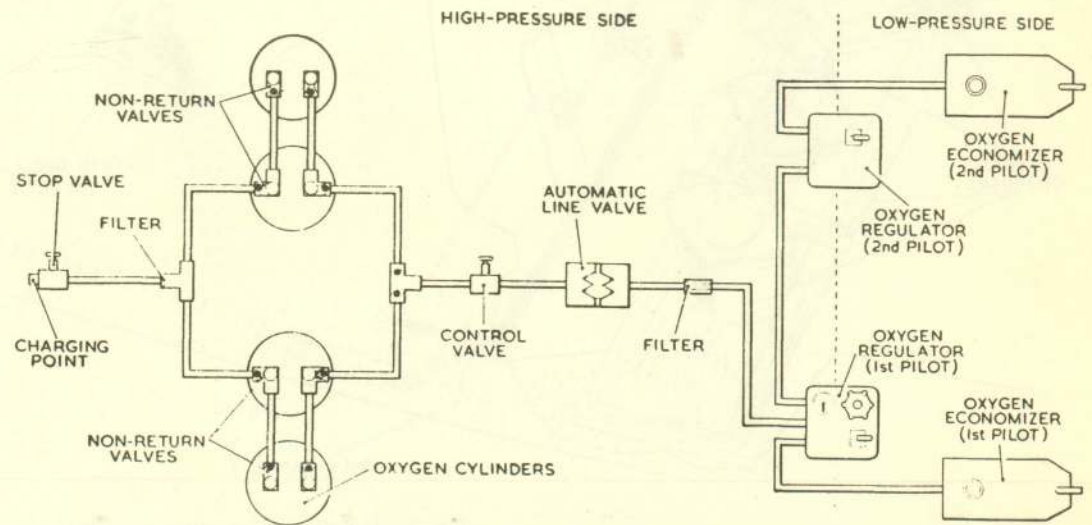
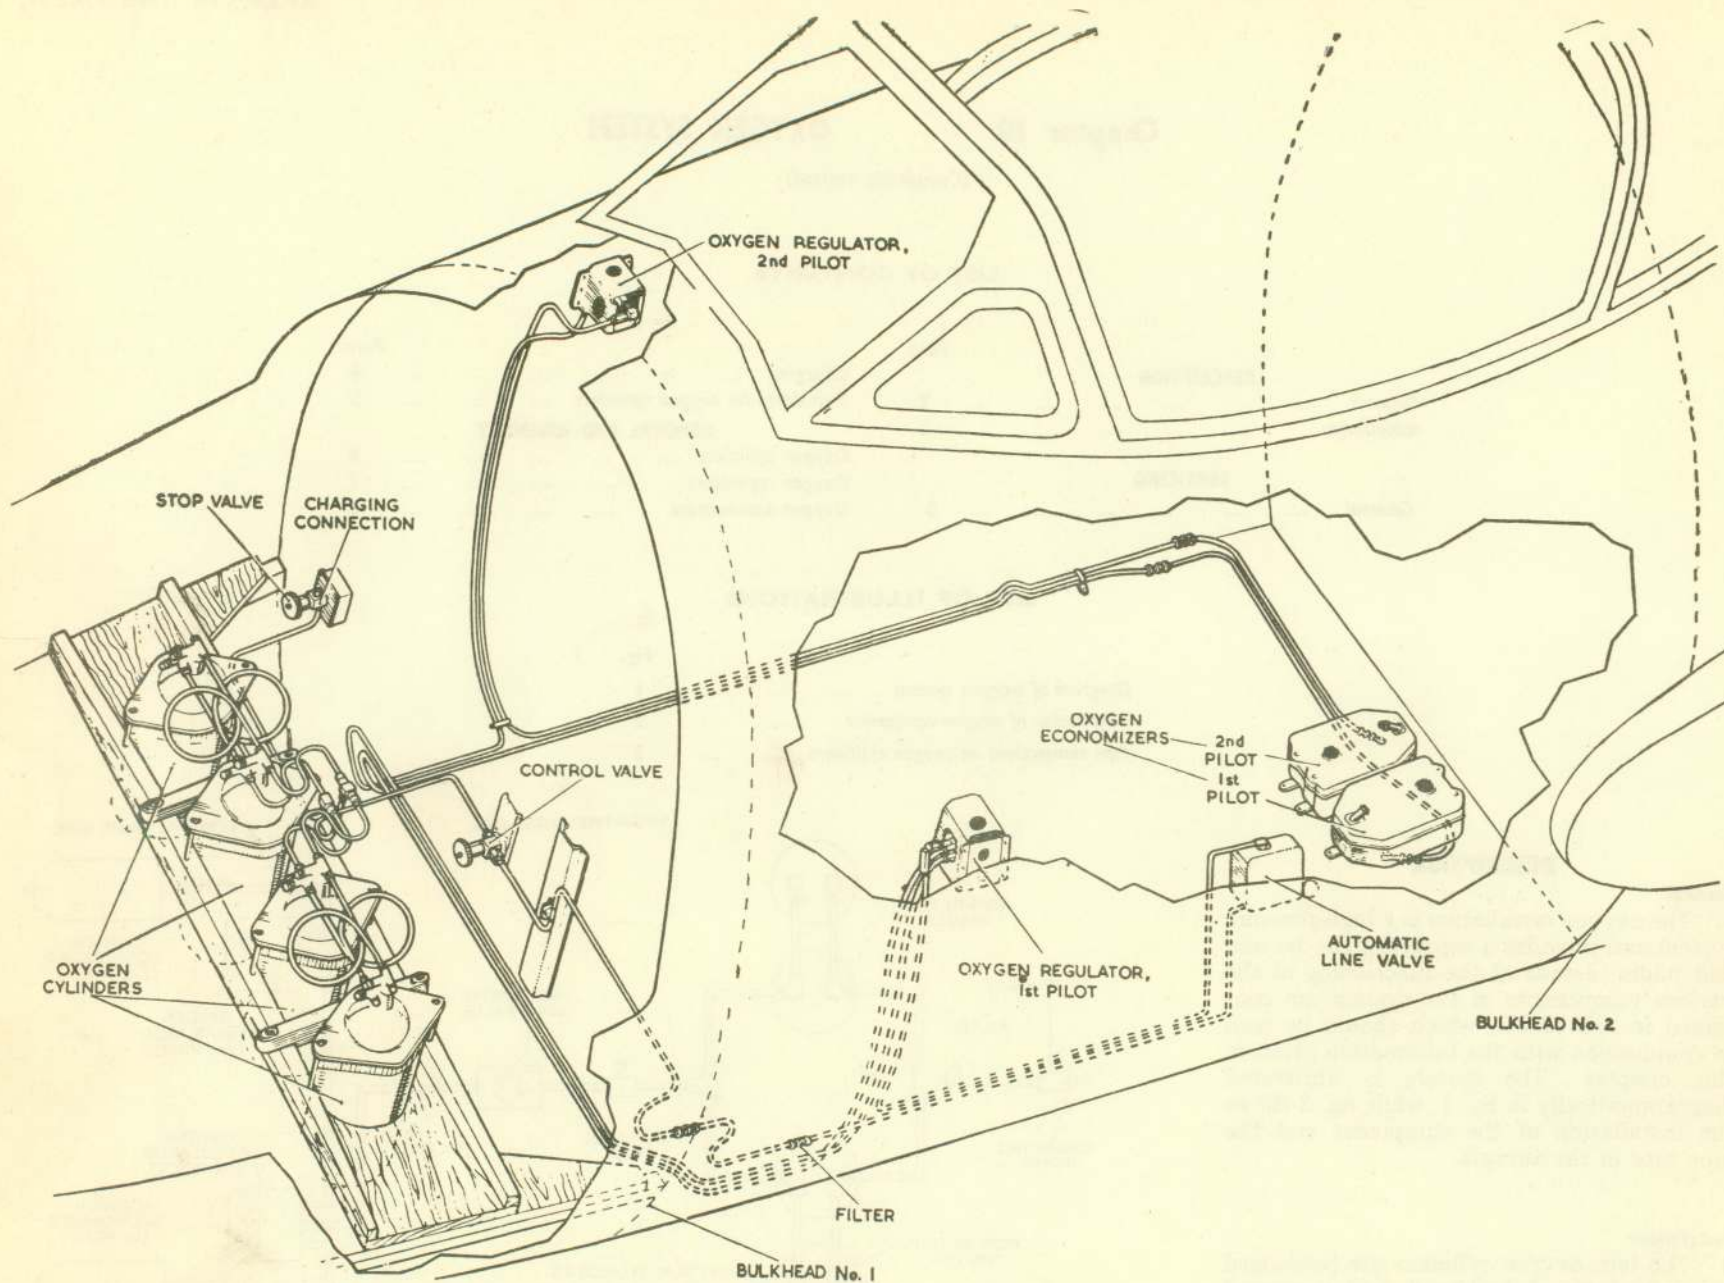

Fig. 1. Diagram of oxygen system
Fig. 2. Installation of oxygen equipment
1. The oxygen installation is a high-pressure system and provides a supply for the 1st and 2nd pilots; details of the functioning of the various components in the system are contained in A.P.1275G, which should be read in conjunction with the information given in this chapter. The system is illustrated diagrammatically in fig. 1, while fig. 2 shows the installation of the equipment and the pipe runs in the aircraft.